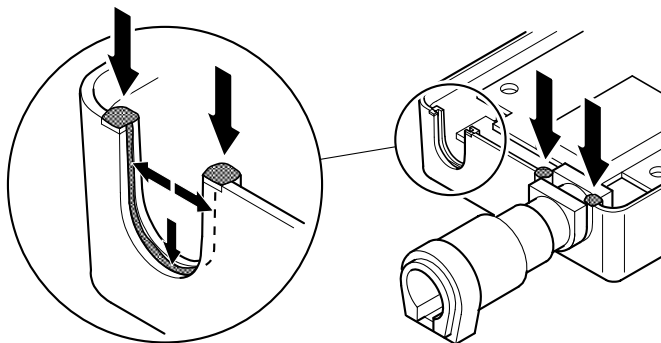

Figure 3-1. Applying sealant to the top bezel
Important: During the manufacture of some 3770/3775 oximeters, a bead of silicone sealant was applied to the IR window and sensor connector cutouts on the top and bottom bezels (see Figures 3-1 and 3-2). The sealant was applied to ensure the waterproof integrity of these oximeters.
- If the sealant on the top bezel is not intact, apply new clear silicone rubber adhesive sealant (Dow Corning RTV 3145) to the top bezel above the sensor connector. See Figure 3-1.